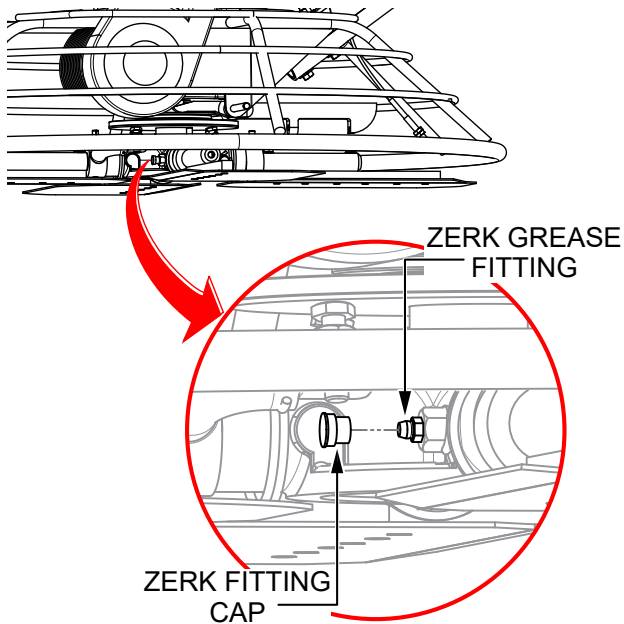

Figure 20. Spider Lubrication
1. Locate one of the Zerk grease fittings on the spider assembly (Figure 20). Remove the Zerk fitting cap and set it aside.